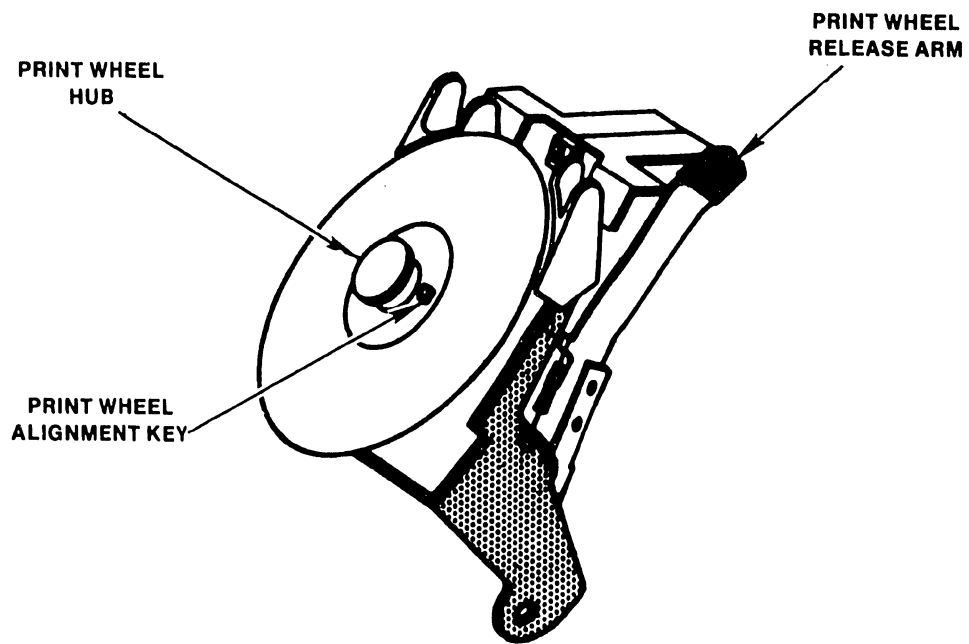

FIGURE 2-9 DAISY PRINT WHEEL
3. Using the print-wheel release lever on the side of carriage, unlock the print-head assembly and tilt it away from the platen to expose the print wheel hub (see Figure 2-9).